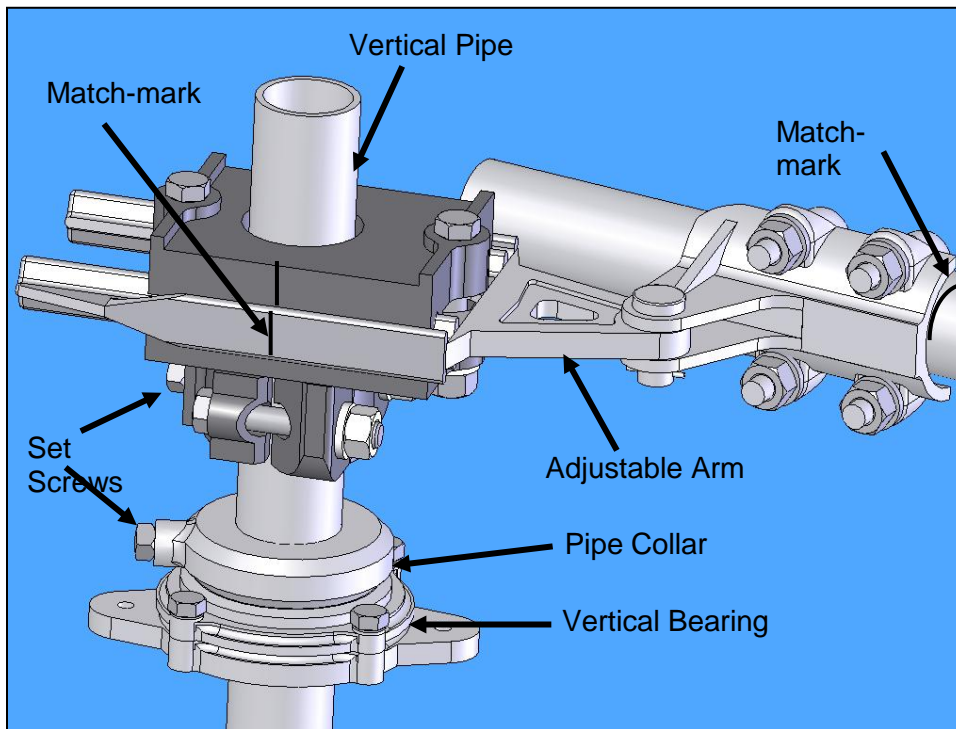
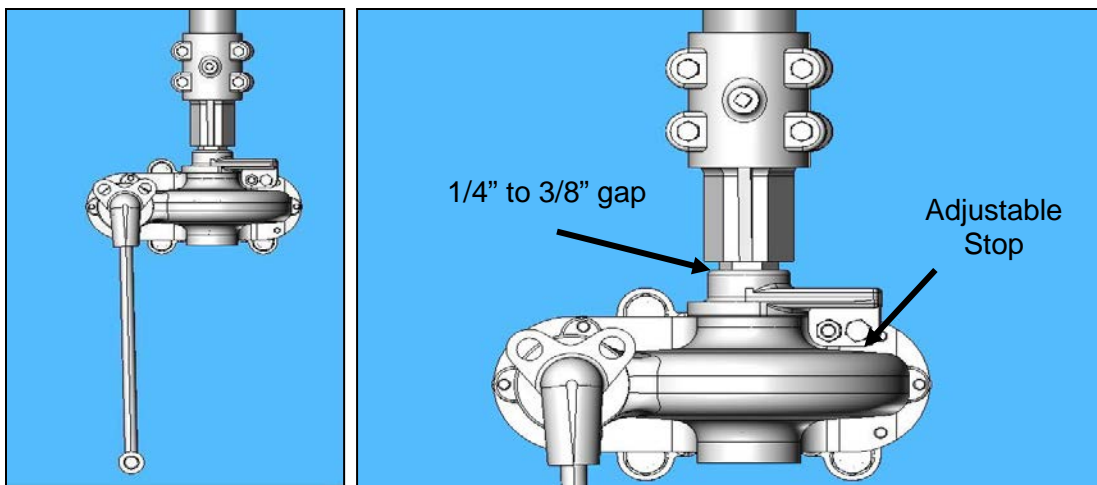

Figure 5: Typical Operating Arrangement
Figure 6: Type HOGO (High Output Geared Operator) Front View
Refer to the Operating Mechanism drawing and install all mounting brackets, bearings, bushings, pipe clevises, switch operating device, adjustable arm, reach rod, and other necessary components. Refer to **Figure 5**.
3. **Caution:** The pipe collar (above the vertical bearing) must support the entire weight of the vertical operating pipe. To prevent unnecessary component damage, **Do not allow the pipe to rest on the switch operating device.** Refer to **Figure 6**.
- 2.1.2. The weight of the vertical operating pipe should be supported by pipe collar (**Figure 5**) by maintaining the 1/4 - 3/8" gap (**Figure 6**).
- 2.1.3. When the switch is properly adjusted the operator handle should hang freely in both the open and closed positions to permit the use of a customer supplied padlock. Refer to **Figure 6**.